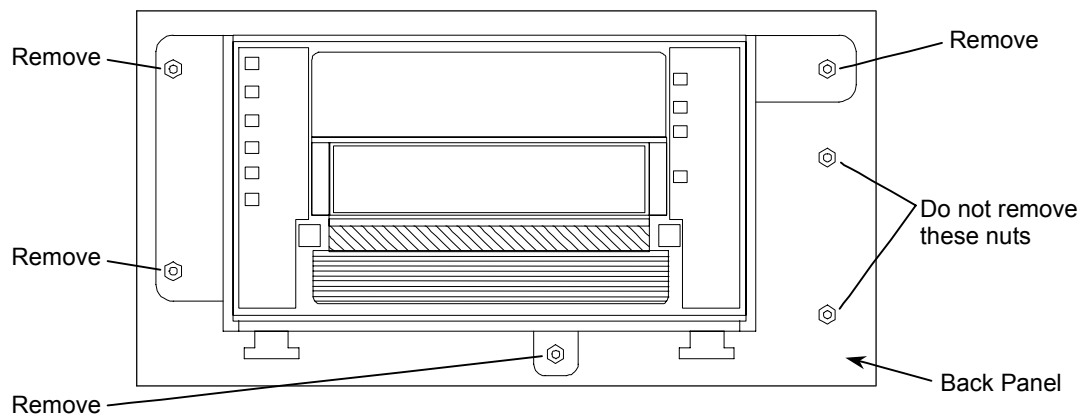

Figure 26 Tape Drive Assembly (Front View)
5. Carefully stand the tape drive assembly on its Carrier Handles and remove the four 1/4-inch locking nuts that secure the back panel. Do not remove the two locking nuts securing the circuit board. Refer to Figure 26.
10. Replace the back panel on the tape drive assembly that was removed in Figure 26 and retighten the four 1/4-inch locking nuts securely.